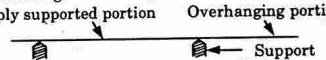

Fig. 2.1.3.
3. **Overhanging Beam :** If the end portion of a beam is extended beyond the support, such beam is known as overhanging beam. Overhanging beam is shown in Fig. 2.1.3.